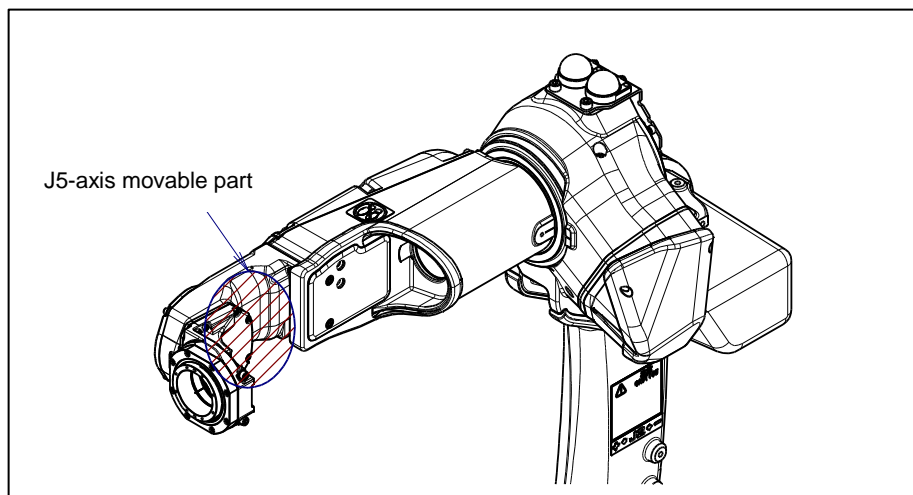

Fig. 3.6 (c) Note place for pinching
- Please do not operate the robot with putting your hands on the following parts. (Refer to Fig. 3.6 (c))